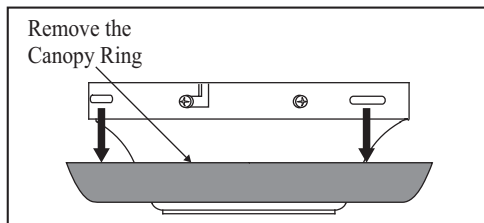

Figure 5
1. Remove the canopy ring from the canopy. (Figure 5).
1. Remove the canopy ring from the canopy. (Figure 5)